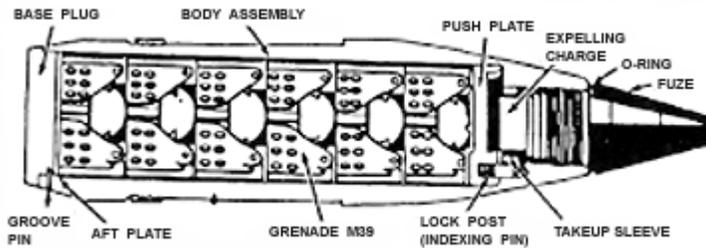

Figure 2-8. ICM projectile
e. Improved conventional munitions rounds (Figure 2-8).